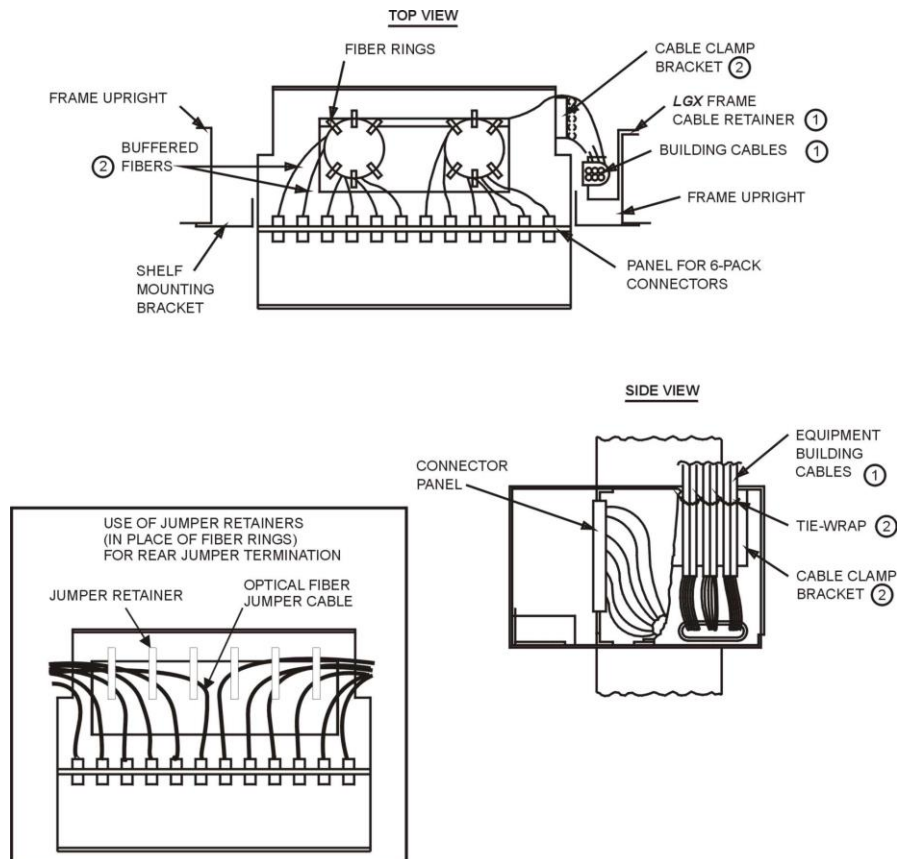

Figure 9. Installing Building Cables
4. Twelve fiber rings and six jumper retainers are provided for the rear of shelf. The fiber rings should be installed for buffered fiber OR the jumper retainers, if jumpers are to be terminated. See Figure 9.